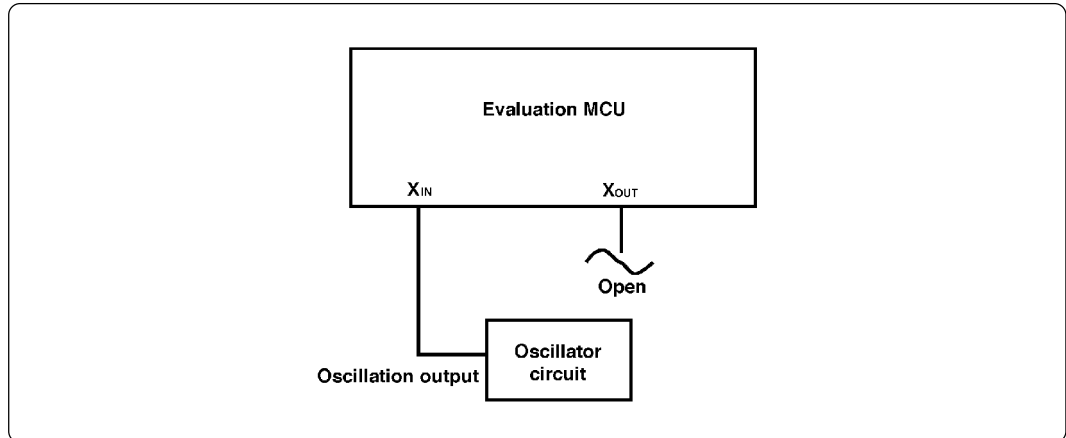

Figure 3.3 External oscillator circuit
- To operate the emulation pod with an external clock, construct the oscillator circuit as shown in Figure 3.3 in the target system and input the oscillator output at 50% duty (within the operating range of the evaluation MCU) into pin X_{IN} . And pin X_{OUT} should be open.